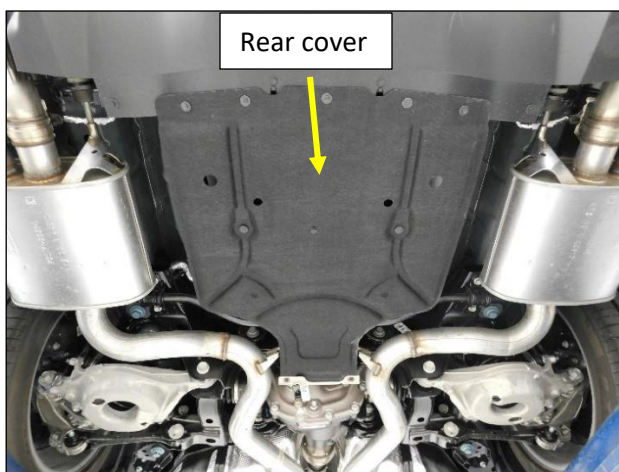

Figure 1
2. Remove the rear cover and mounting bracket as shown in **Fig. 1 & Fig. 2.**